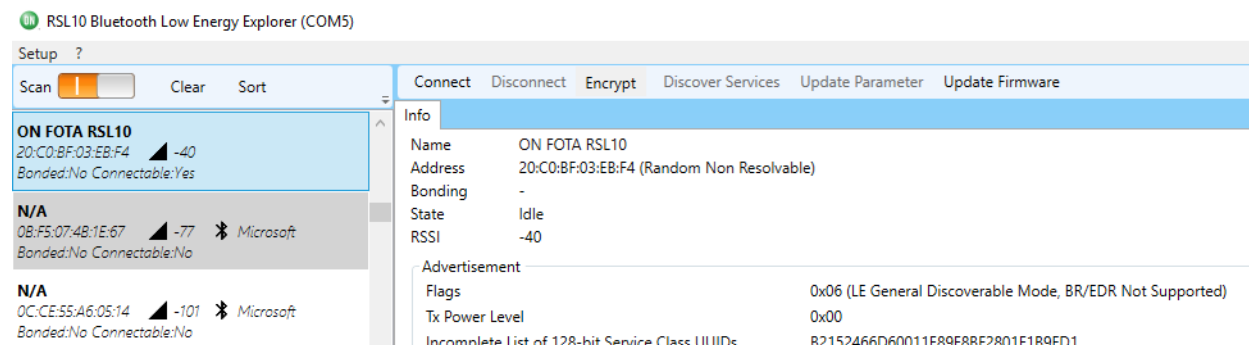

Figure 18. FOTA DFU Mode Running
5. Push the DIO5 button on your RSL10 EVB so that the device starts the FOTA DFU mode. You can see the name **ON FOTA RSL10** on the RSL10 Bluetooth Low Energy Explorer, as in Figure 18, below: